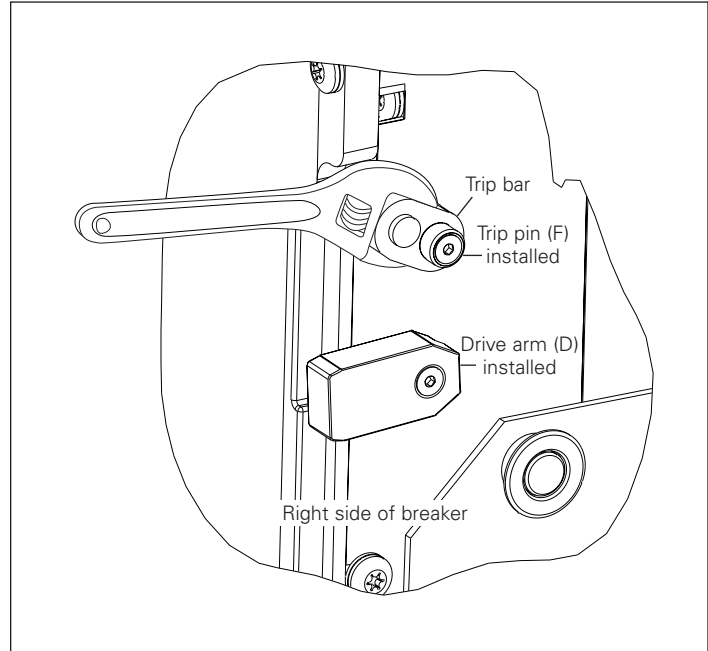
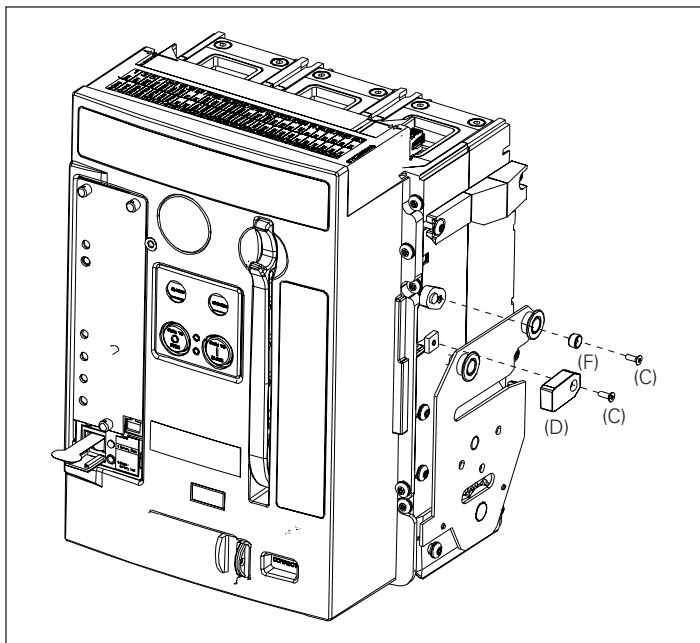

Figure 5. Details for Steps 1 and 2
Figure 4. Details for Steps 1 and 2
Install the drive arm (D) to the end of the pole shaft using one M3 x 8 mm flathead screw (C) as shown in **Figure 4** and **Figure 5**. Apply Loctite Blue 242 to ensure that the screw cannot loosen during operation. The drive arm should be oriented as shown in **Figure 4** and **Figure 5**. Torque to 0,3–0,6 N·m (3–5 in-lb).
Install the trip pin (F) to the trip bar using an M3 x 8 mm flat-head screw (C) while holding the trip bar with an adjustable wrench as shown in **Figure 4** and **Figure 5**. Apply Loctite Blue 242 to ensure that the screw cannot loosen during operation. Torque to 0,3–0,6 N·m (3–5 in-lb).